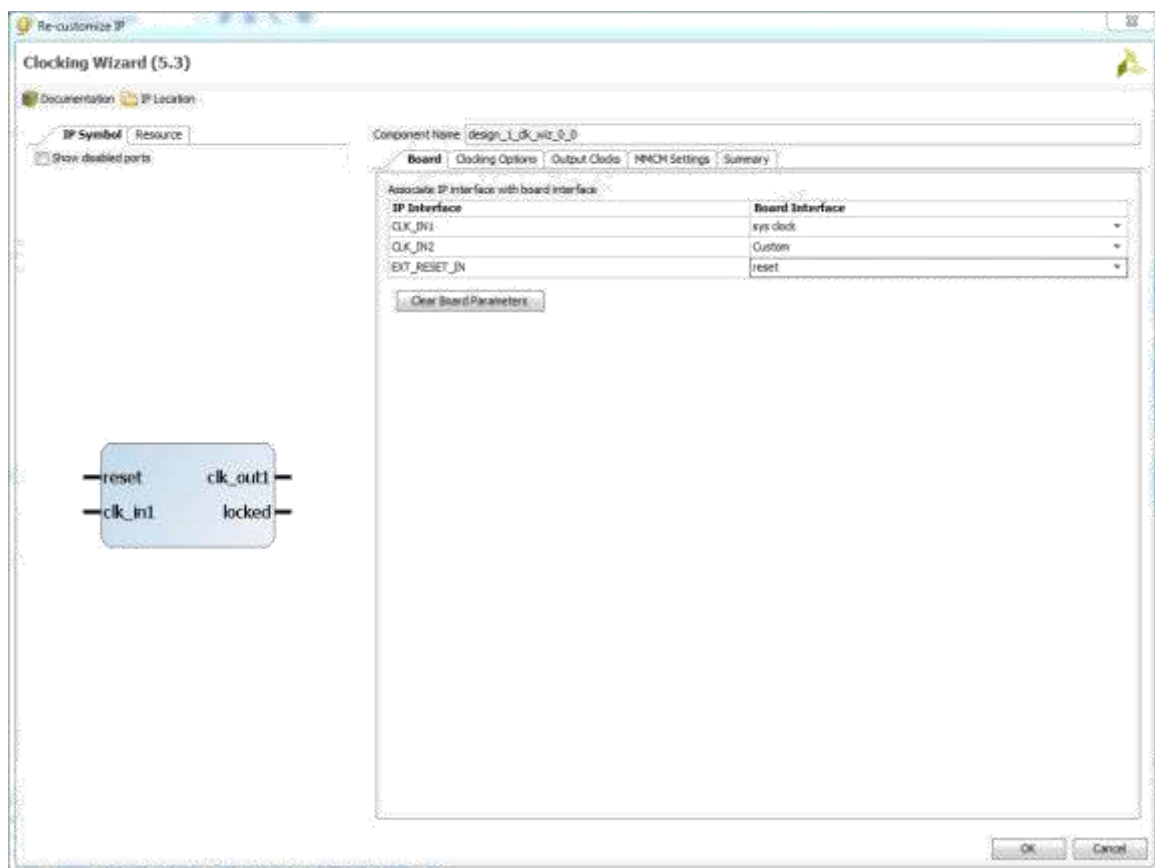

Figure 17: Re-Customize IP Dialog Box
2. Now let us examine the clocking logic. Double click on the Clocking Wizard block. This should bring up the Re-customize IP dialog block for the Clocking Wizard, as shown in Figure 17. The parameters for all IPs can be inspected and changed via this dialog box, invoked in a similar way.